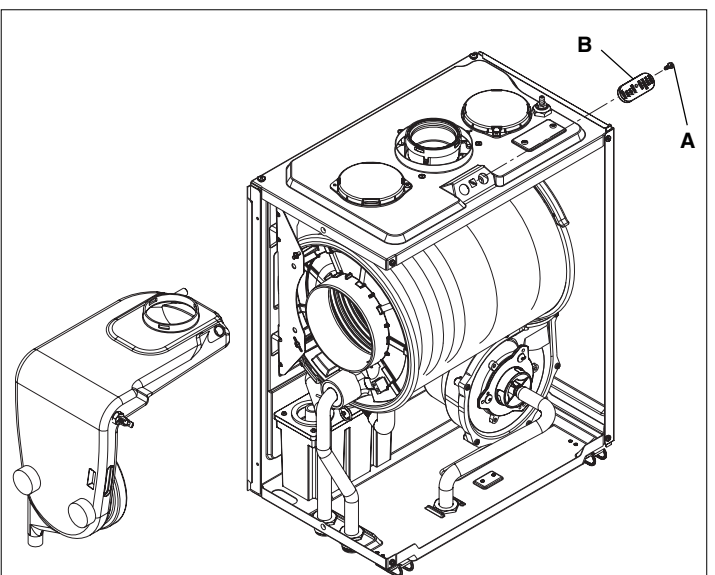

Fig. 37
6.26 FLUE COLLECTOR REMOVAL (fig. 37)